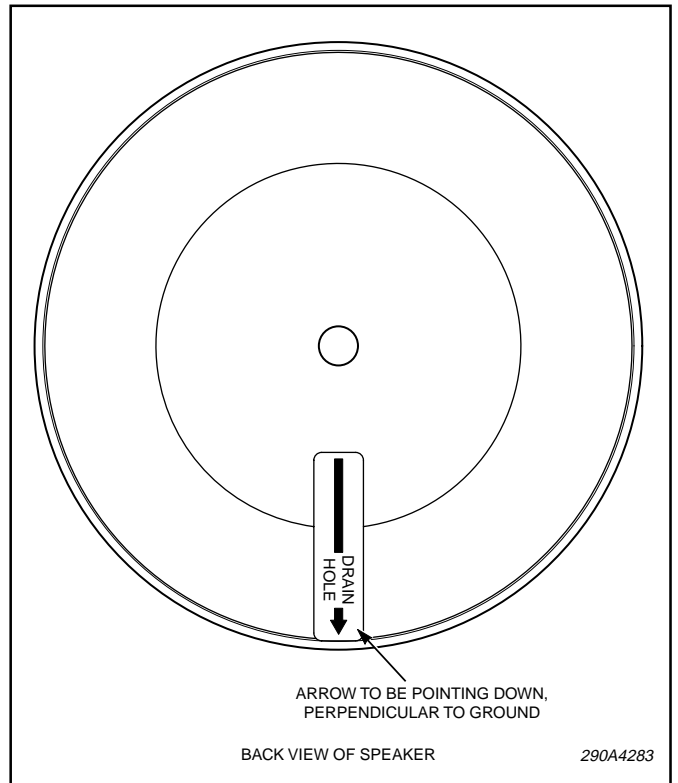

Figure 1.
a. See figure 1. Ensure that drain hole is located on the bottom side of the speaker as indicated by the label.